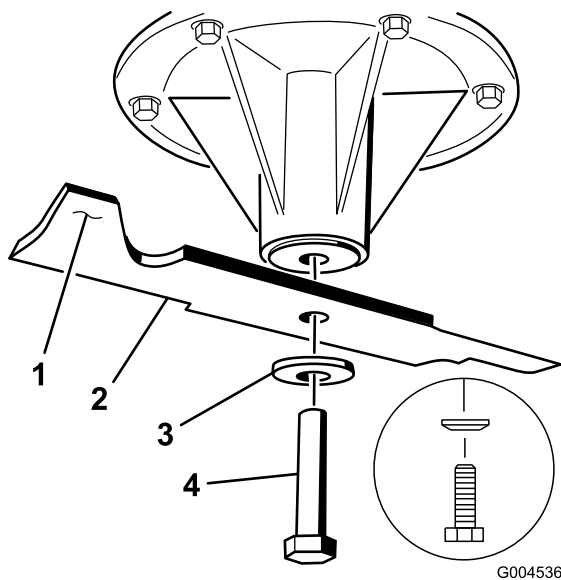

Figure 76
1. Install the blade onto the spindle shaft (Figure 76).
2. Install the spring disk and blade bolt. The spring disk cone must be installed toward the bolt head (Figure 76). Torque the blade bolt to 85-110 ft-lb (115-150 N-m).